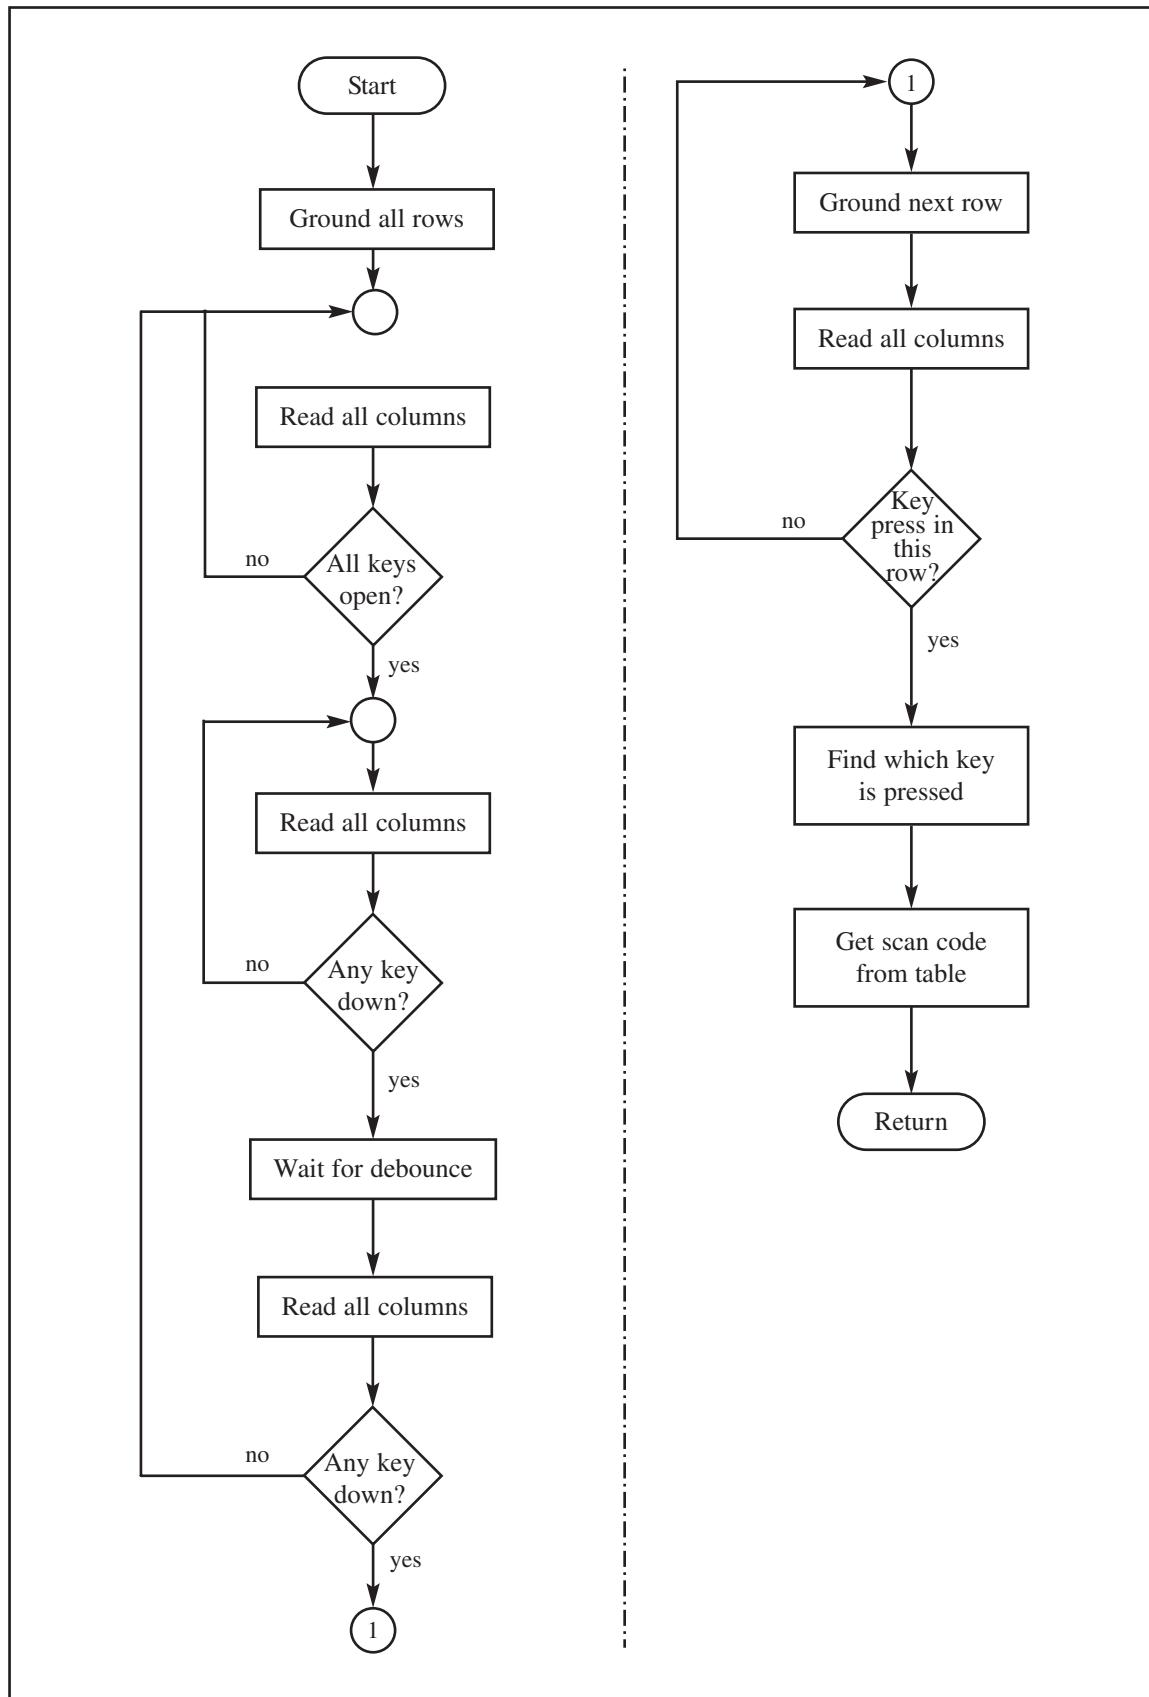

Figure 7. Flowchart for Program 4
4. To identify the key press, the microcontroller rotates the column bits, one bit at a time, into the carry flag and checks to see if it is low. Upon finding the zero, it pulls out the ASCII code for that key from the look-up table; otherwise, it increments the pointer to point to the next element of the look-up table. Figure 7 flowcharts this process.